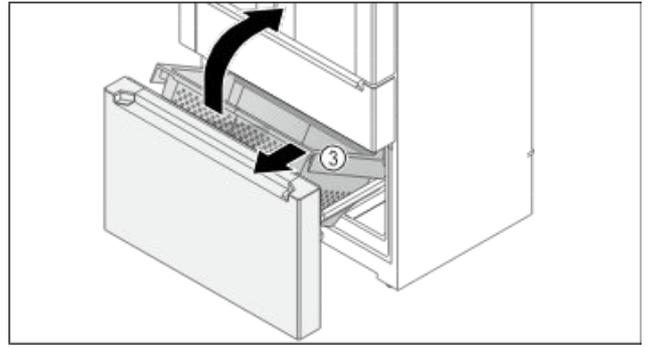

Fig. 153
- ▶ Pull the container Fig. 153 (3) out forwards.
- ▶ Remove the container Fig. 153 (3) diagonally forwards.